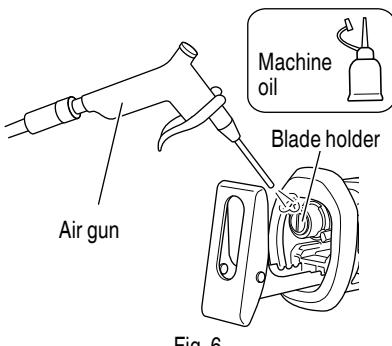

Fig. 6
- (1) After use, blow away sawdust, earth, sand, moisture, etc., with air or brush them away with a brush, etc., to ensure that the blade mount can function smoothly.
- (2) As shown in Fig. 6, carry out lubrication around the blade holder on a periodic basis by use of cutting fluid.